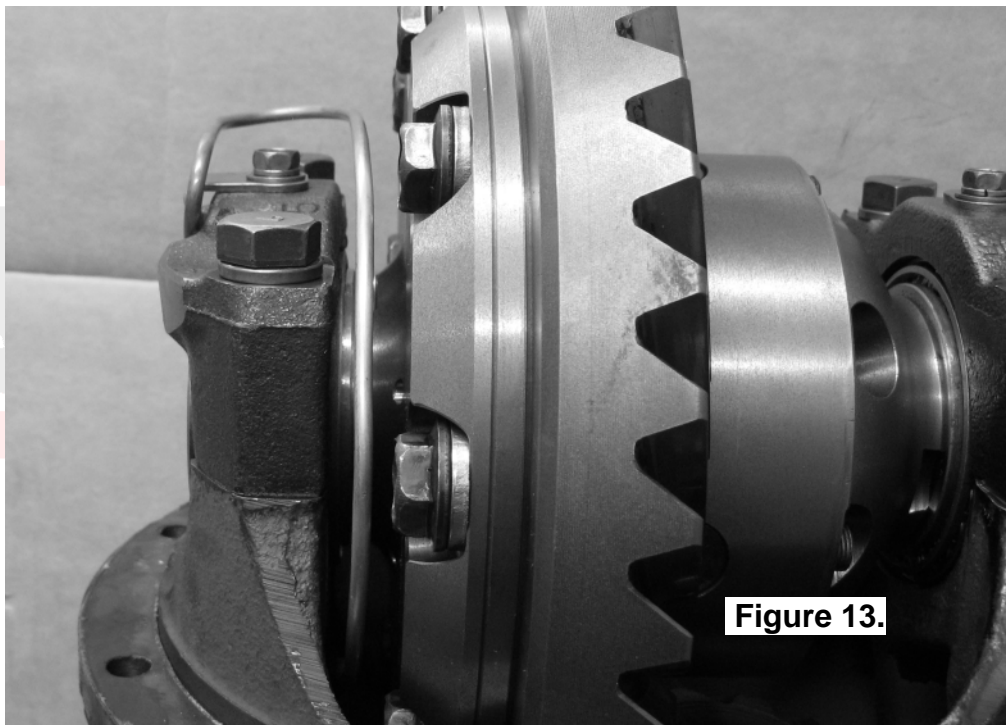

Figure 13.
- With the seal housing tube now firmly secured into the bulkhead fitting, bend the tube so that it closely follows the profile of the differential. (Figs.13.,14., & 15.)